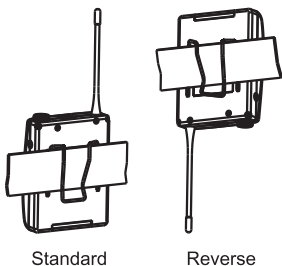

Fig. 2
- ③ Transmitting Antenna
- ④ Housing
- ⑤ LCD Panel
- ⑥ SET button
- ⑦ MODE button
- ⑧ Power Switch
- ⑨ ACT Sync Window
- ⑩ Battery Compartment
- ⑪ Battery Cover
- ⑫ Remote control mute connector
- ⑬ Reversible Belt Clip. Fig. 2
- ⑭ Battery Charging Contact (Rechargeable)
- ⑮ Battery protection circuit reset button (ACT-70TC/52TC/32TC Rechargeable)